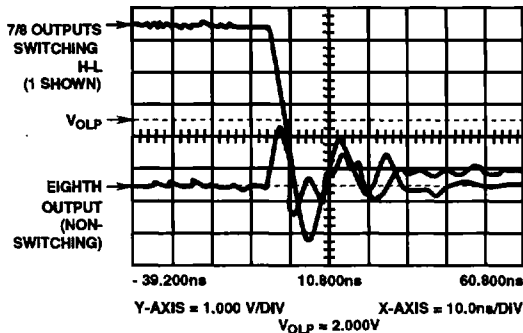

FIGURE 25. GROUND BOUNCE ( $V_{OLP}$ ) FOR A COMPETITOR'S FCT
transceiver or the 373 latch) all switch H-L or L-H on top of each other? Figure 24A and Figure 24B show the ground bounce ( $V_{OLP}$ ) noise glitch for Harris FCT245 and 373 types and Figure 24C shows the  $V_{CC}$  bounce ( $V_{OHV}$ ) glitch for the FCT373 type - all very representative of the Harris IC and package design for minimized switching noise. In fact, the FCT373 devices used for these measurements operate at "AT" speed. Figure 25 shows the measured ground bounce of a competitor's FCT 245 IC. Ground bounce measurements for the competitor's FCT 245A are even higher. Application Note AN9001 provides a detailed description of Harris accurate Ground/ $V_{CC}$  Bounce Test PCBs and how readers may obtain one for their own measurements. From the waveforms in Figure 24 and Figure 25, a summary of useful observations is shown in Table 7.
**TABLE 7. SELECTED DATA FROM FIGURE 24 AND FIGURE 25**